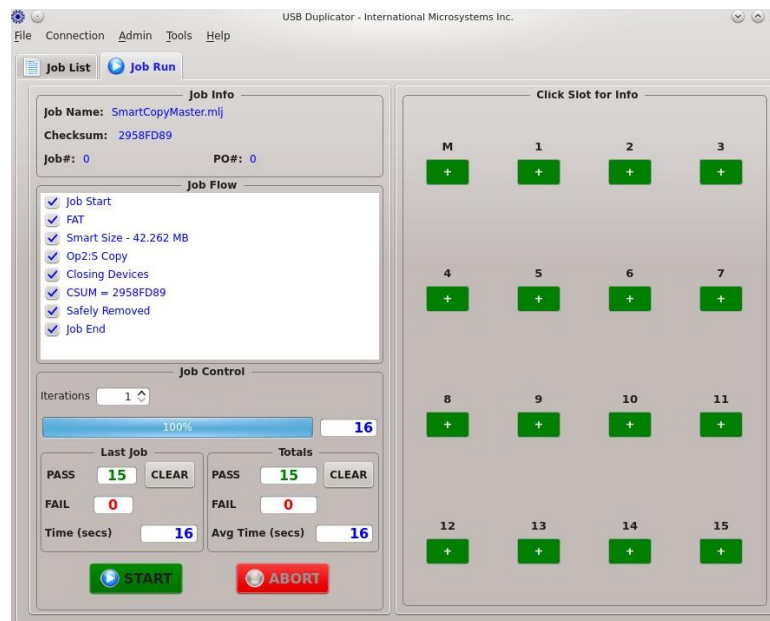

Figure 3-14 Job Completion
5. On completion of the job, the PASS/FAIL information is updated on the GUI screen. In addition, the USB slot boxes on the GUI screen will go Green (for pass) or Red (for failure) as shown in Figure 3-14.